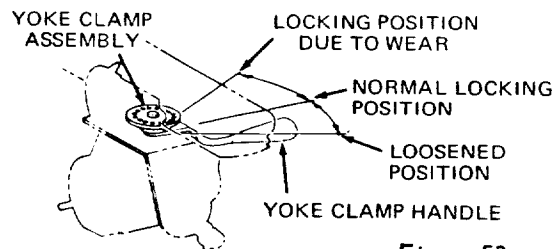

Figure 53
I. Yoke Clamp Handle Adjustment (Figures 53 – 56).
The normal locking position of the yoke-clamp handle (figure 53) is approximately midway between the two sides of the yoke. When sufficient wear has occurred to permit the handle to move considerably to the rear, or to strike the yoke before locking, the handle may be adjusted as follows: